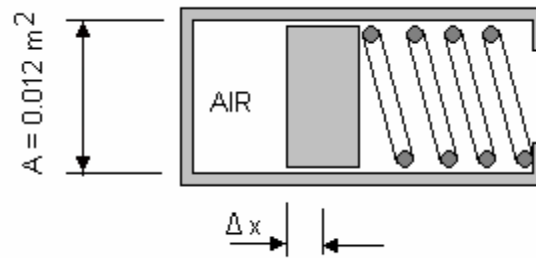

Figure 16
4. A horizontal cylinder is fitted with a frictionless piston and its movement is restrained by a spring as shown (Figure 16.)